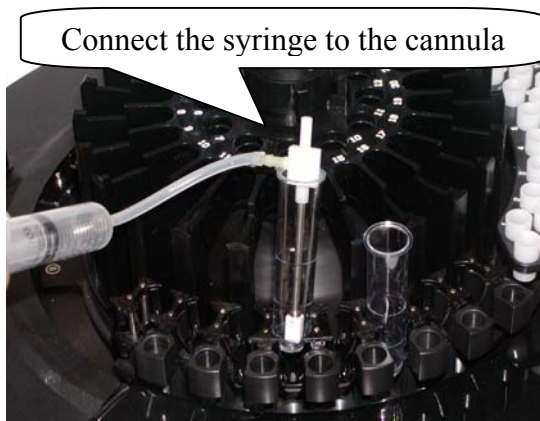

Fig. 6
7. Attach a 10 ml syringe to the cannula and aspirate and dispense the hypochlorite solution through the cannula (and the Tip) until the latter is completely clean (Fig. 6). This aspirating and dispensing forces the liquid through the Tip fibers in both directions